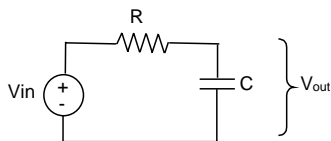
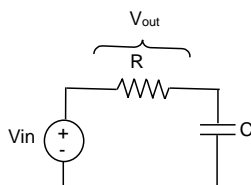

Figure 1 – RC Circuit Used As a Low-Pass Filter
Figure 3 – RC Circuit Used As Another Type of Filter
Consider the response of the circuit in Figure 1 to a square wave input. The capacitor acts as a charge bucket, which is alternately charged (filled) and discharged. The capacitor (C) is charged by V_{in} (input voltage) until the voltage across the capacitor matches that of V_{in} . If V_{in} is then switched off (or to a lower voltage value) C begins to discharge through R so that V_{out} heads toward V_{in} again. It takes time, however, for the capacitor to charge and discharge through the resistor. That is, the capacitor has dynamics that slow down V_{out} and prevent it from exactly following V_{in} .
Construct the circuit in Figure 1 on the breadboard. Use $R = 1\text{K}\Omega$ and $C = 1.0 \mu\text{F}$.
- P5** Now, read the output voltage across the resistor instead of the capacitor, as shown in Figure 3. Record the ratio of the output amplitude to the input amplitude and the phase lag of the output for input frequencies of 100, 200, 500, 1k, 2k, and 4k Hz. Repeat the plots that you did for P4. What type of filter is this?
- Q6** What happens if you provide a triangle wave input into the circuit in Figure 3? Explain based on the transfer function for the circuit.
5. Turn in the graphs for P4 and P5, with an overlay of the theoretical frequency responses. Hint: To plot the theoretical frequency responses, you must derive the transfer functions $H(s) = V_{out}(s)/V_{in}(s)$ for the circuits shown in Figure 1 and Figure 3. Find the magnitude and phase of the transfer function evaluated at $s = j\omega$. Plug in $C = 1\mu\text{F}$ and all $R = 1\text{K}\Omega$ to get the actual values. Label the cut-off frequency on the graph.